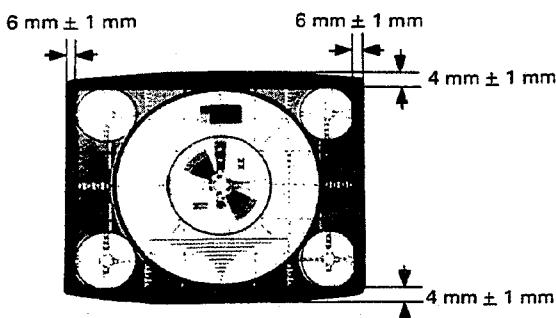

Figure 3
3. Adjust U.S. V-Size control (R411) until picture height becomes $4 \text{ mm} \pm 1 \text{ mm}$ shorter than picture tube screen at top and bottom as shown in figure 3.
3. Adjust H-Size control (R566) until picture width becomes $6 \text{ mm} \pm 1 \text{ mm}$ shorter than picture tube screen at both sides as shown in figure 3.